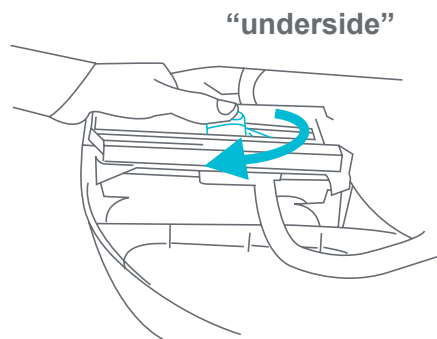

Fig. 11a
- 11 • To fold the walker, turn the lever vertically and pull it towards you to release (Fig. 11a).